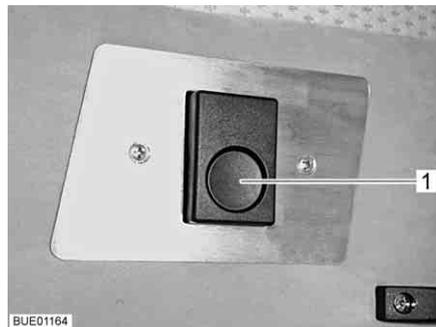
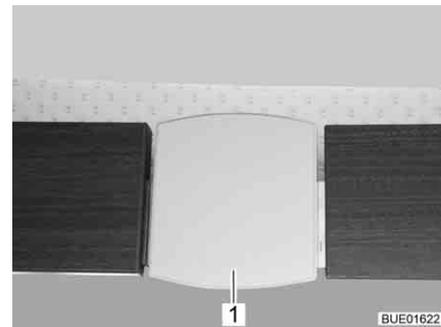

Fig. 126 Release point (Aviano)
Fig. 127 Release point (Viseo)
- Press the release knob (Fig. 126, 1) or pull out the release plate (Fig. 127, 1) at the bottom. The lock is released.